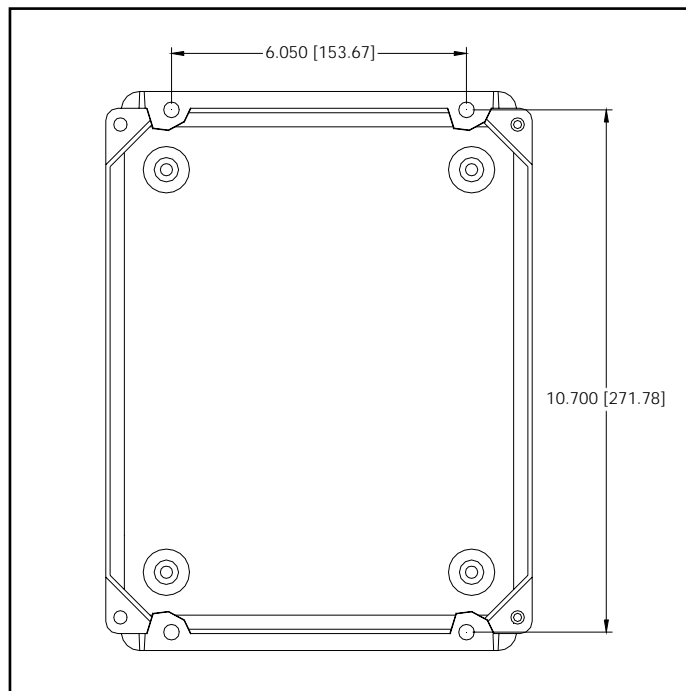

Figure 2-1 Mounting Hole Locations
1. Mount the enclosure securely to a vertical surface. Figure 2-1 below shows the locations of the four mounting holes. All four mounting holes should be used to secure the monitor.